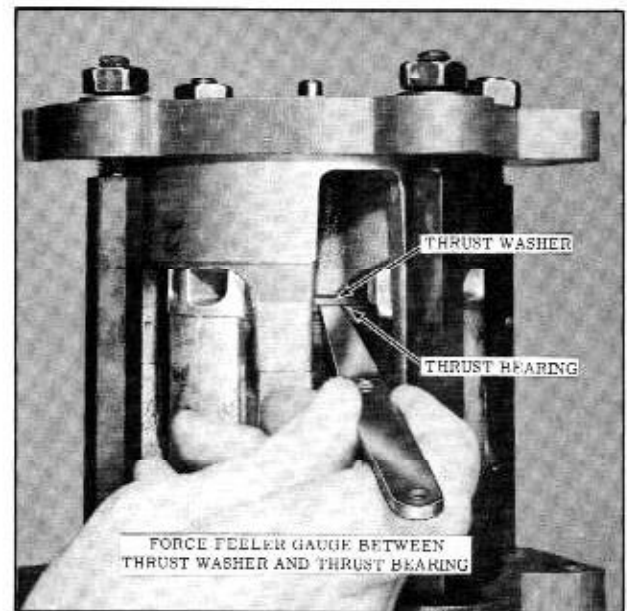

Fig. 14-53 Checking Drive Shaft End Play Clearance
13. To determine the clearance between the rear thrust bearing and the upper or outer-rear thrust race, use a combination of feeler gauge leaves to get a FORCED FIT between these two parts. (Fig. 14-53)